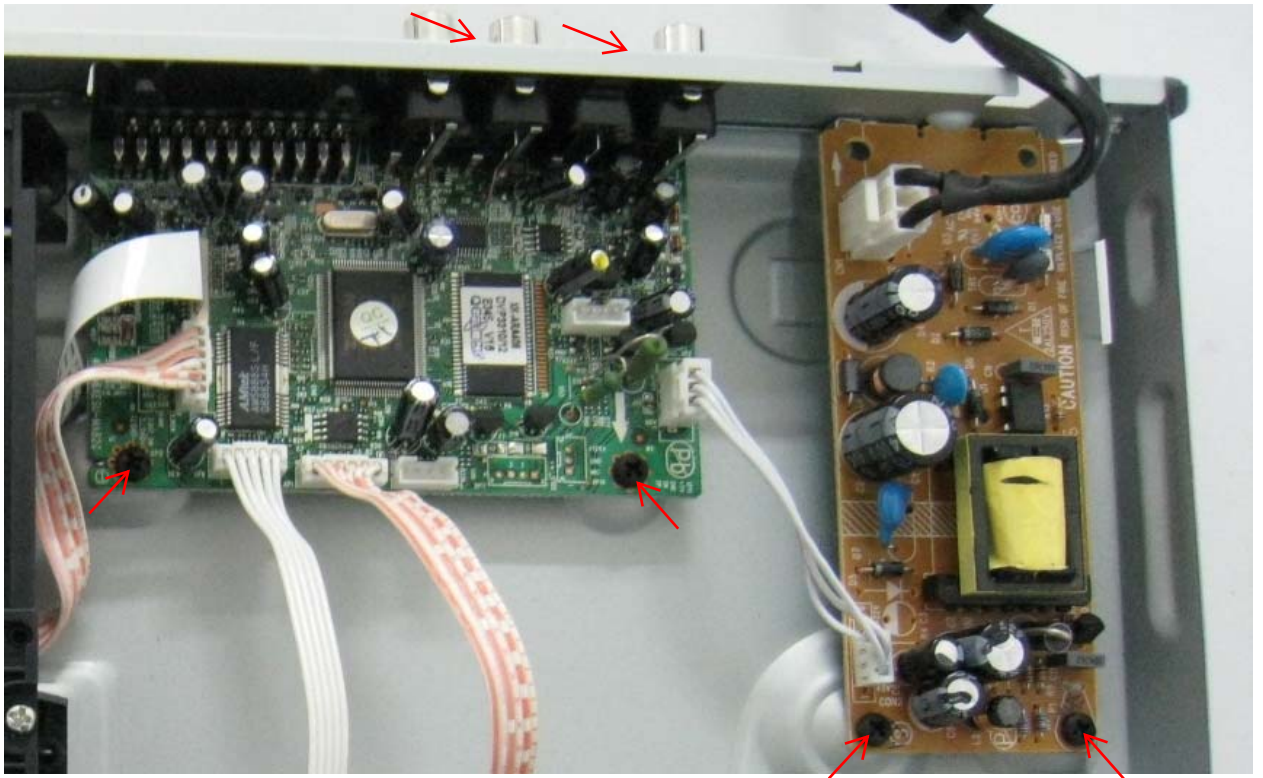

Figure 7
Step6: Dismantling Main Board, first disconnect the connector (XP1), and then remove 4 screws. (Figure 7)
Step7: Remove the 2 screws on Power Board to dismantle the Power Board. (Figure 7)